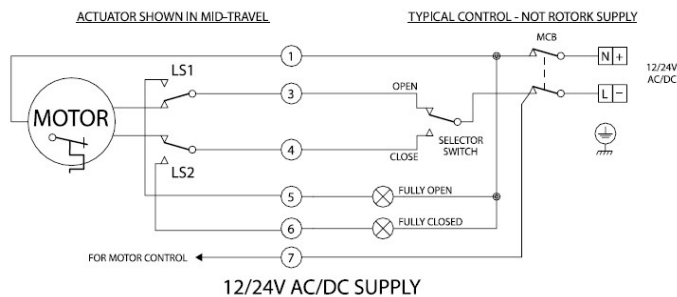

Figure 5: LS1/LS2 in wiring diagram
-the contact of LS2 is opened (voltage 24VDC on Terminal 6, see Figure 5)
-the contact of LS1 is opened (voltage 24VDC on Terminal 5, see Figure 5)